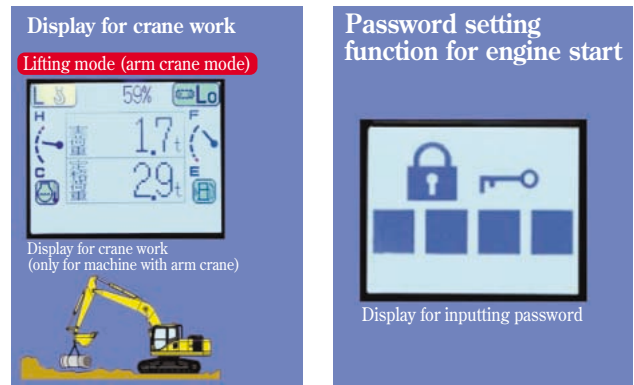

Fig. 20 Arm Crane and Password
- (3) When the machine is equipped with an arm crane and the operator selects Lifting Mode, a display in the monitor changes and instead shows displays concerning crane work like a net load and the rated load; a revolving warning lamp lights up; and the bucket stopping function is activated.
- (4) In order to prevent an unauthorized transport of the machine, a protective device is installed on the machine using this multi-monitor. That is, a password is inputted in the multi-monitor beforehand. When turning the engine starting key, a password input display appears on the monitor, and unless the correct password is inputted, the engine cannot be started. In that case, even if the engine is successfully started by short-circuiting the battery terminal and the engine starting motor, the machine is still immobilized. (See Fig. 20)